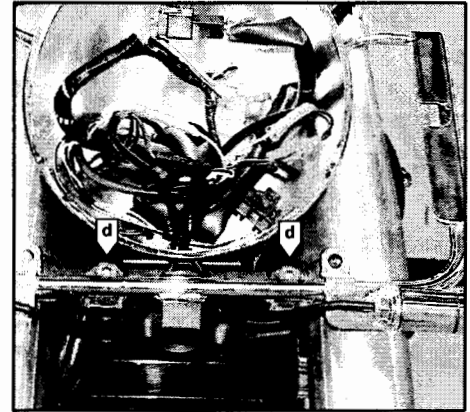

Figure 4
**7.** Install the two 8 x 12mm socket head bolts removed in Step 5 through the mount bracket and back into their original holes to secure the bottom of the mount. Tighten the upper 8 x 40mm and lower 8 x 12mm mounting bolts to 23 N-m (16 lb-ft). See Figure 4.